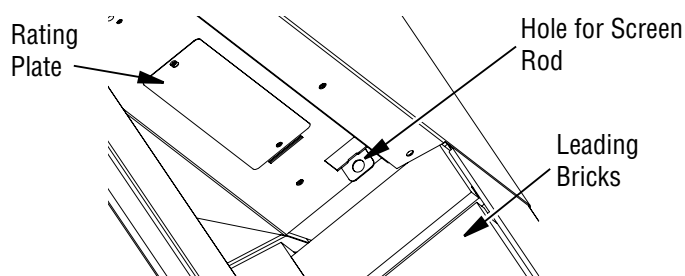

Figure 15 - Installing Fireplace Screen
3. Bend tab on both sides with the hole down to insert the round end screen rod into hole on the left and right side of smoke shelf (*Figure 15*).